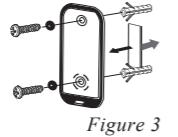

Figure 3
3. Install the pushbutton (Refer to Figure 3)